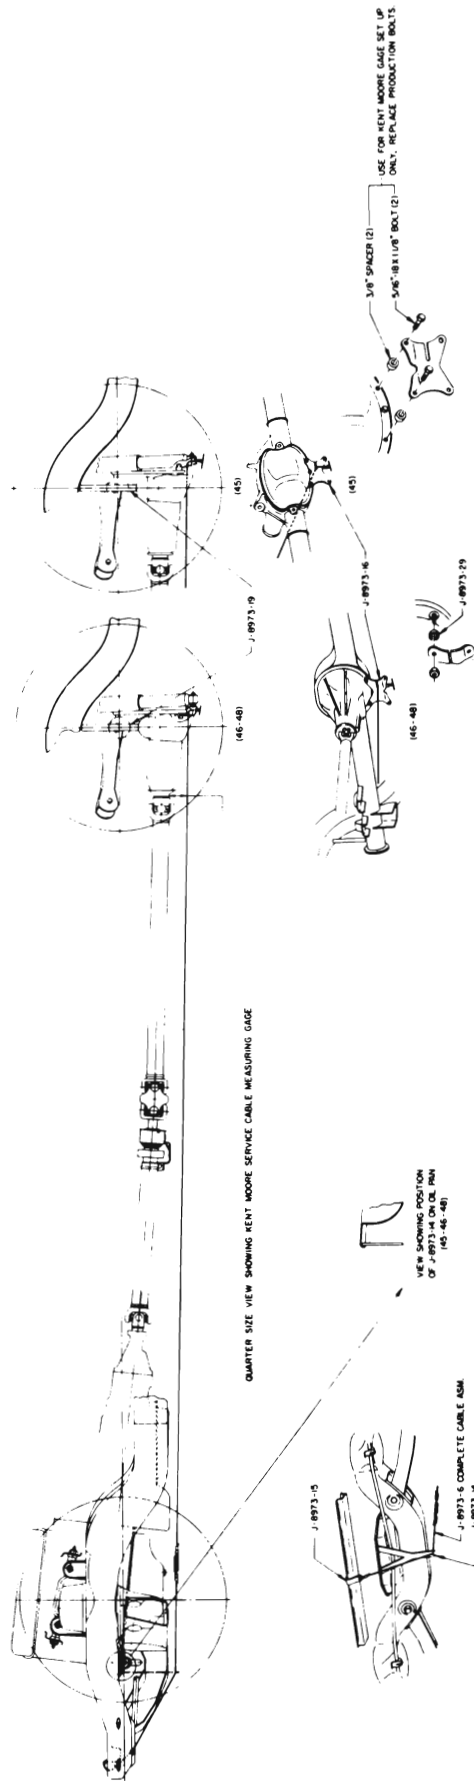

Figure 6-114—Checking Rear Universal Joint Angle—45, 46, 48000 Series
A simple method has been developed for measuring rear universal joint angle using a spring-loaded steel cable stretched between the front of the chassis and the rear axle carrier. When the rear universal joint angle is adjusted correctly, this steel cable will clear the underside of the pinion flange by a definite amount. Therefore, if this single direct measurement is within specified limits, the rear universal joint angle is correct; if this measurement is out of limits, the joint angle is not correct. See Figure 6-114.
1. Raise car, preferably on a drive-on hoist. Install Alignment Height Tubes J-8973-19 by raising the rear of the body slightly while inserting tubes vertically between frame and axle housing. See Figure 6-114. If the body does not come down firmly on the tubes, add weight in the trunk until the tubes are held tightly.
2. On 46, 48000 remove two differential carrier mounting nuts, one on each side of the lowest nut. Install two special flat washers over studs, then install Rear Bracket J-8973-16 with bent edge toward front and slot to the right, using nuts just removed. On 45000 install bracket as shown in Figure 6-114.
4. Position Engine Height Plate J-8973-14 vertically with wide end centered against front flange of engine pan. Pull cable down and place in lower notch of plate. See Figure 6-114.
5. Measure perpendicular distance from machined surface immediately in front of slinger on rear pinion flange to top of cable. This distance is given for 45-46-48000 models in Figure 6-114.